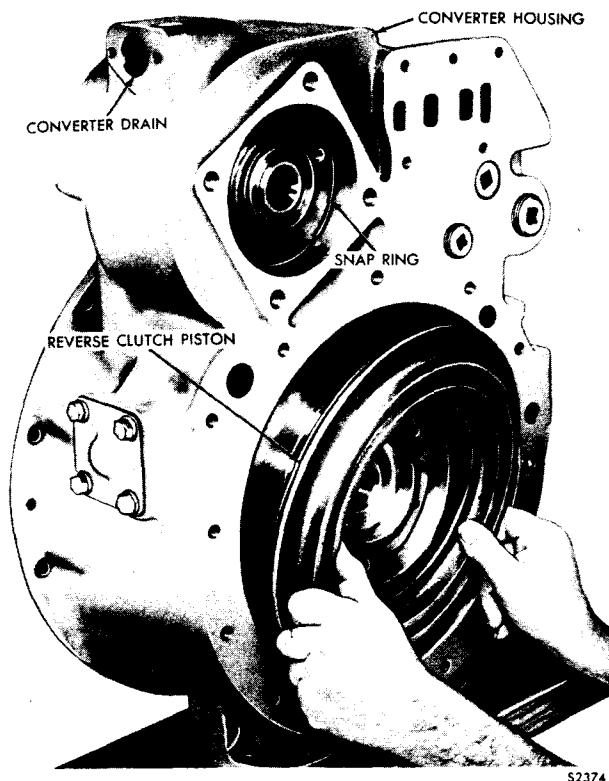

Fig. VI-14. Removing (or installing) reverse clutch piston
(2) Position the torque converter housing assembly on the oil cooler mounting surface (fig. VI-14).
Note: On CRT 3321-3 and CRT 3331-3 models, remove two bolts, lock washers, cover, and gasket from the converter drain opening (fig. VI-14).
(3) Remove the reverse clutch piston assembly (fig. VI-14).
(4) Remove the snap ring which retains implement pump bearing retainer (fig. VI-14).
(17) Install the reverse clutch piston assembly, flat side first, into the rear of the converter housing (fig. VI-14).
(18) On CRT 3321-3 and CRT 3331-3 model transmissions, install gasket 26 (B, foldout 8), cover 20, two bolts 23 and lock washers 22 to cover the converter drain (fig. VI-14).
(19) If ball bearing 34 (B, foldout 8) was removed from converter shaft 32, install it.